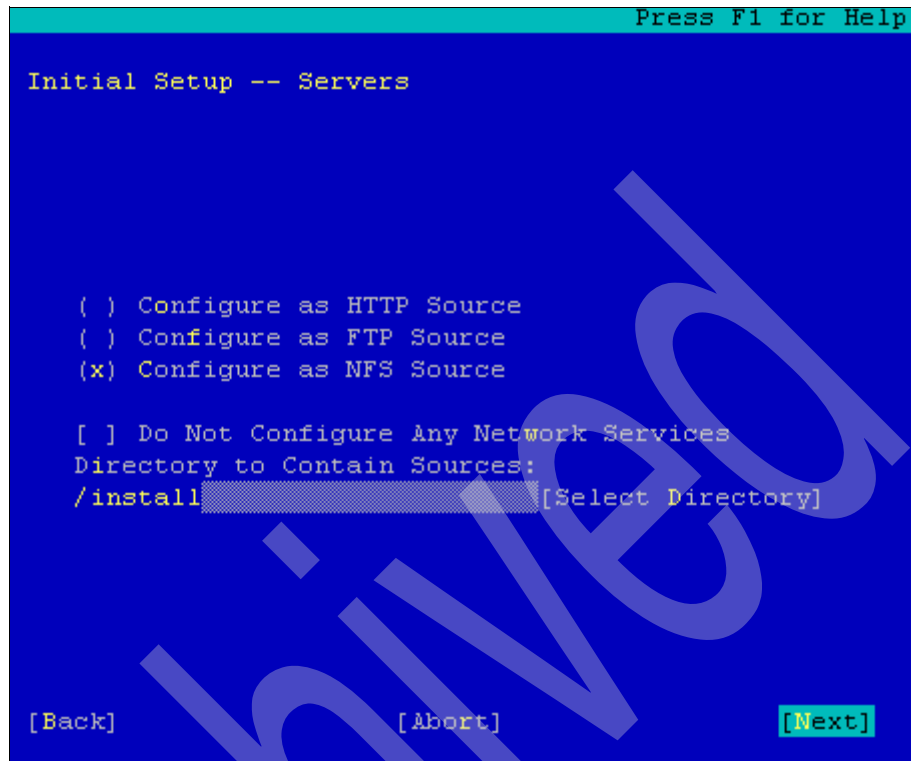

Figure C-2 Initial setup of SLES NFS installation server
3. Select **Configure as NFS Source** and enter the desired source location directory. This example uses `/install` as shown in Figure C-2 on page 536.